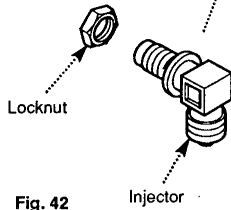

Fig. 42
6. Undo the injector locknut and remove the injector from the burner tray by disengaging the gas pipe from the injector (Fig. 42).
7. Examine and clean the injector. Do not use any hard tools such as pins or wire. Renew if necessary (Fig. 42).